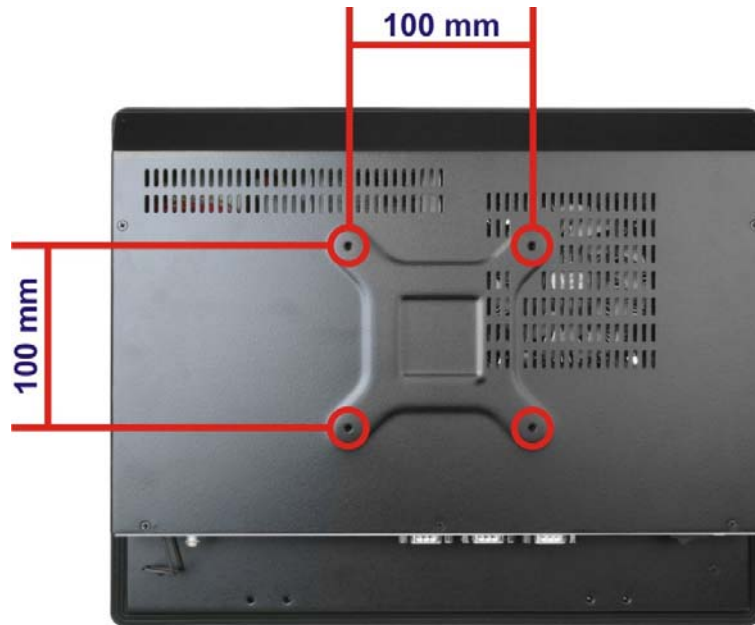

Figure 3-31: Arm Mounting Retention Screw Holes
- Step 3:** Align the retention screw holes on the mounting arm interface with those in the PPC-FxxA-H81 panel PC. The arm mounting retention screw holes of the PPC-FxxA-H81 panel PC are shown in **Figure 3-31**.